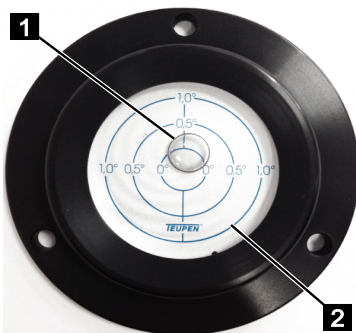

Fig. 130
- Level out the chassis by aligning it with the circular level (Fig.130) using the outriggers. The bubble (Fig.130/1) in the circular level must be within the 1° circle (Fig.130/2).